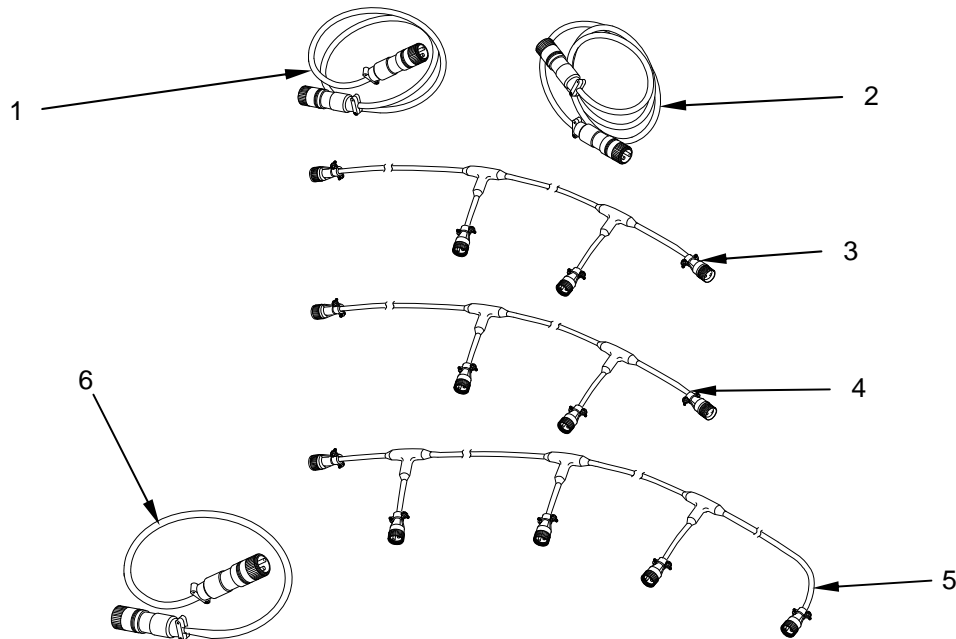

Figure 1. Inspect 24VDC Extension and Branch Cables.
1. Inspect all of the 24VDC cables (Figure 1, Items 1, 2, 3, 4, 5, and 6) for signs of deterioration or damage to the insulation.